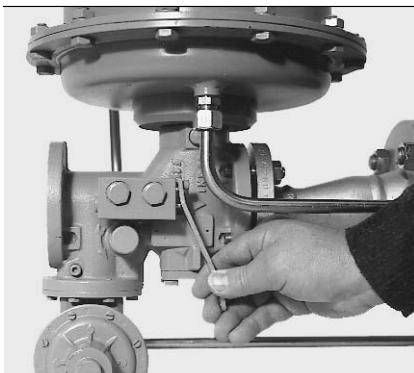

Fig. 4
- Equalise the pressure by opening the bypass valve (Fig. 4).